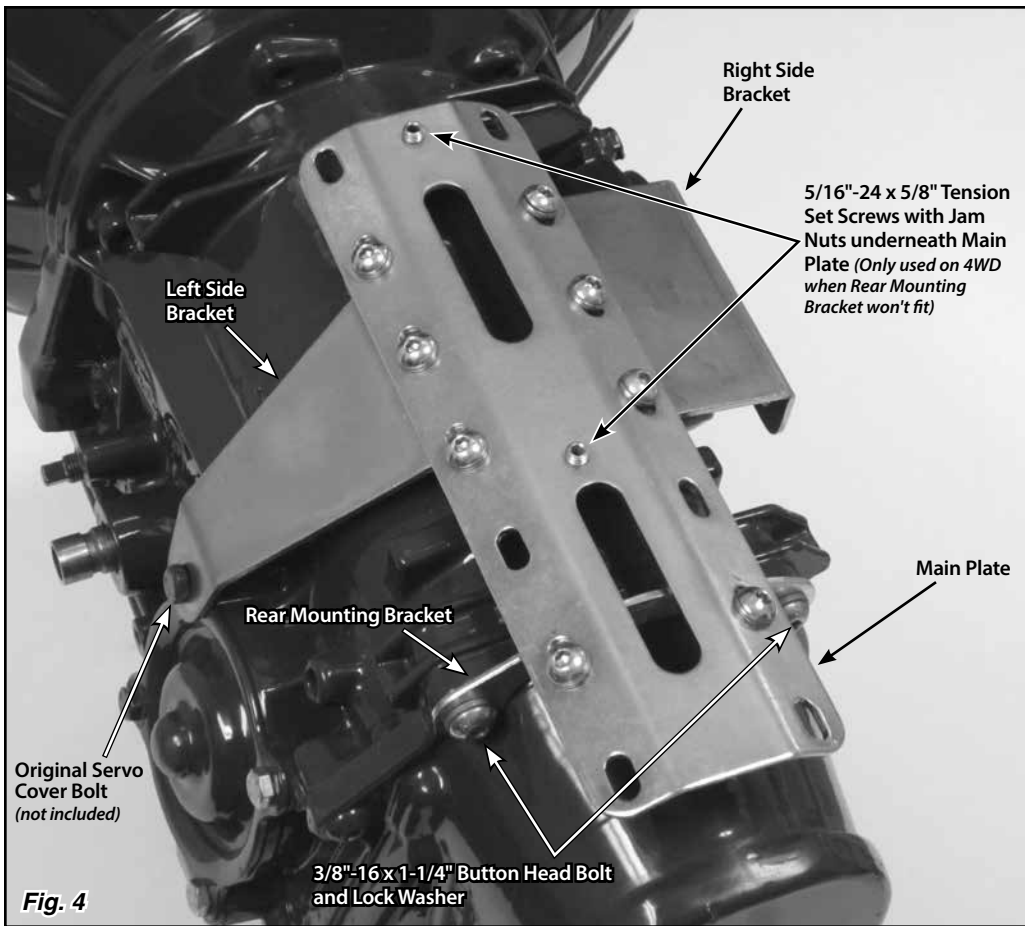

Fig. 4
If you have a 4 wheel drive application that will not accept the rear mounting bracket, thread the 5/16"-24 x 5/8" tension set screws into the tension set screw holes at the front and in the center of the shifter main plate. Install the jam nuts onto the bottom end of the tension set screws, underneath the main plate. **Fig. 4**
**Step 6:** Set the mounting bracket assembly into place on top of the transmission. **Fig. 4** Attach the mounting bracket assembly to the transmission by first re-installing the left and right servo cover bolts you removed, through the side brackets and into the transmission.
**Step 7:** Tighten all of the bolts on the left, right, and rear (if applicable) mounting brackets. **Fig. 4**